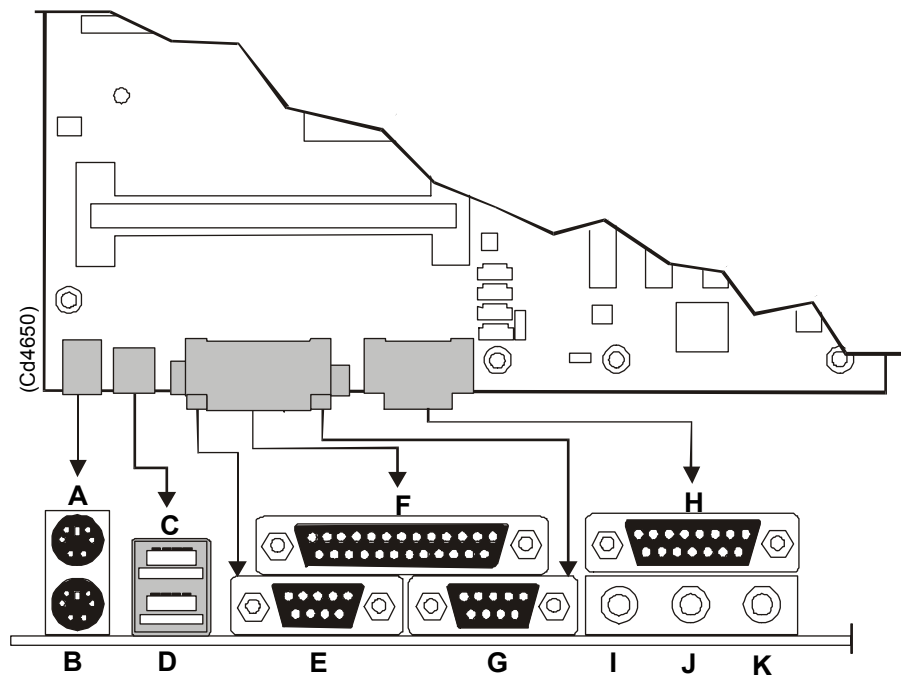

Figure 74 Motherboard rear side I/O connectors
- *The placements of the connectors are illustrated in figure 74.*